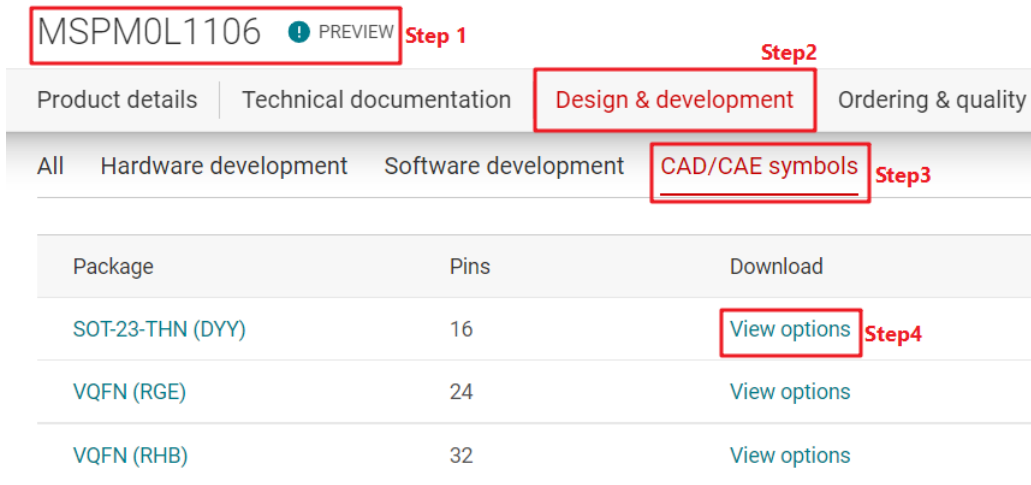

Figure A-11. Ultra Librarian Tool Start Page
1. Go to the start page of the Ultra Librarian tool under the MSPM0 device page using the steps shown in Figure A-11.